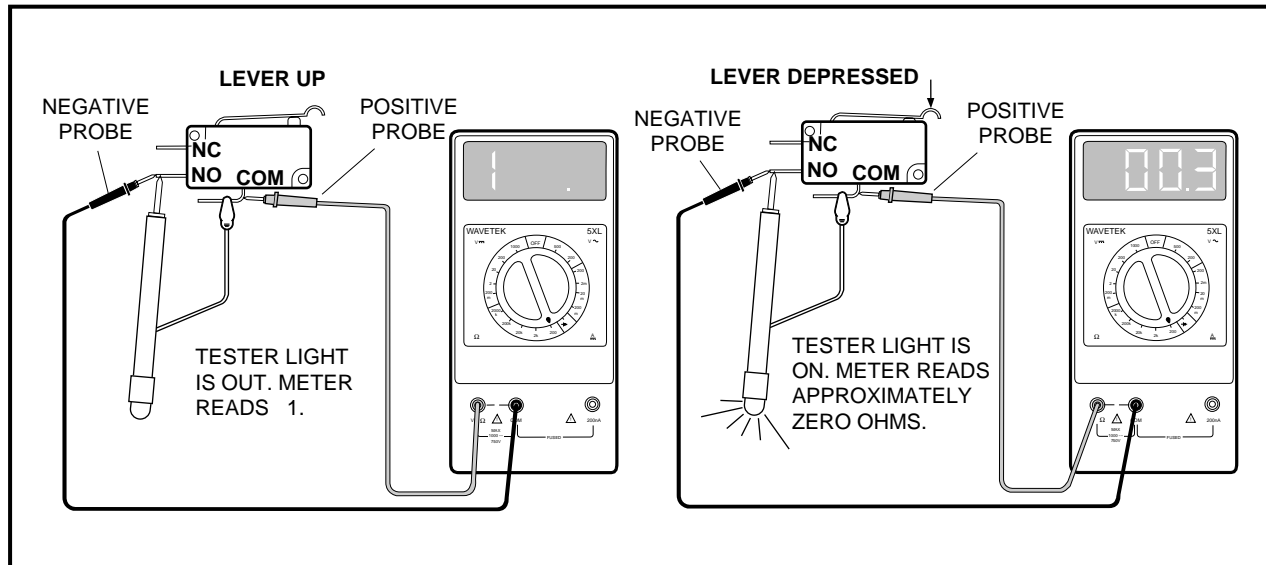

Figure 11-32 Test Lockout Cam Limit Switch
3. Set the multimeter to 200 Ω (ohms). Place the red (+) probe of the multimeter on the common (COM) terminal of the limit switch. Place the black (–) probe on the normally open (NO) terminal of the switch. Without the lever depressed, the reading should be **NO** continuity. Depress the lever, and the reading should be continuity. If either reading is incorrect, replace the limit switch (**Figure 11-32, Page 11-29**).